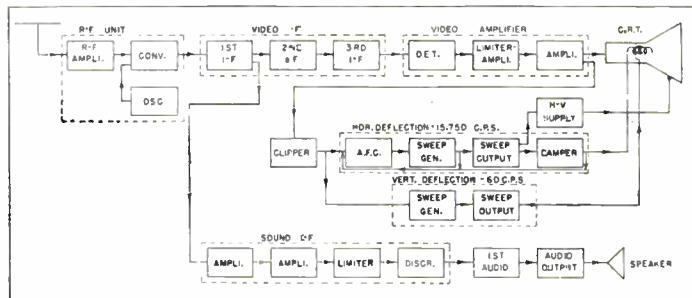

Fig. 3. Block diagram of conventional type receiver.
- (4) If no spark can be seen at the HV rectifier, touch the screwdriver in the same way to the cap of the horizontal output tube or the terminal of the transformer which feeds the plate at the horizontal output tube. If a weak spark can be seen at this point, try replacing the horizontal output, horizontal oscillator and damper tubes. If this doesn't correct the trouble, check the horizontal output transformer for an open and then the voltages on the horizontal output tube. If the trouble can not be located, it will probably be necessary to make a voltage and/or resistance check of the horizontal oscillator and output circuits including the horizontal deflection coils in the yoke. An oscilloscope will be extremely useful in checking for trouble in these circuits, particularly if waveforms and peak-to-peak voltages are available in the service data.
**Tele-Clue No. C-124.** Loss of both sound and picture but with a raster on the picture tube showing vertical retrace lines not stabilized as shown above. This indicates that the trouble is between the antenna terminals and the point where the sound is taken off. In an intercarrier receiver, such as shown in Fig. 2, the defect should be found in the tubes or circuits shown as V1, V2, V3, V4, V5, V6 or Y1. In a conventional receiver such as that shown in Fig. 3, the defect should be found in either the R-F unit or the first video i-f amplifier.
**Tele-Clue No. C-125.** Loss of picture only, with normal sound and vertical retrace lines not stabilized, indicates that the trouble is between the point where the sound is taken off and the picture tube. In the intercarrier receiver shown in Fig. 2, the defect should be found in video amplifier stages V7A or V7B. In a conventional receiver such as that shown in Fig. 3, the defect should be in either the second or third i-f stages or the video amplifier section.
**Tele-Clue No. C-126.** Loss of picture only with normal sound and vertical retrace lines stabilized, indicates that the trouble is between the point where the sync pulses are taken off and the picture tube. In either the intercarrier receiver shown in Fig. 2 or the conventional receiver shown in Fig. 3, the defect is pinpointed to the last video coupling circuit and the picture tube.